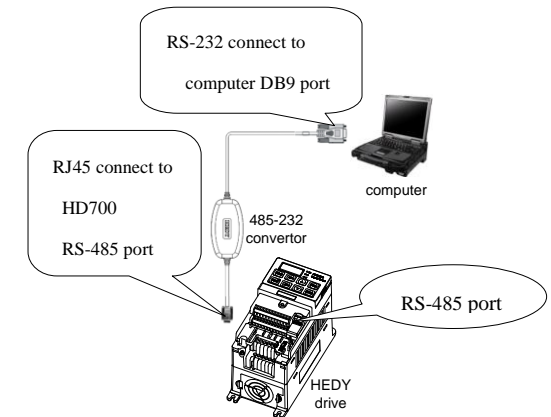

Figure 3-4 Connection diagram
- 2) Connect one end of HDOM-232 to the computer RS-232 port, and the other to drive RS-485 port, as shown in figure 3-4 ;